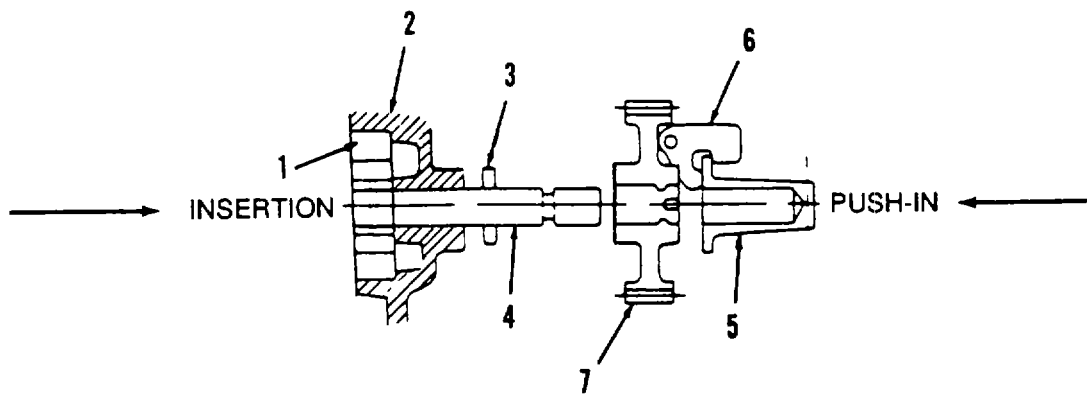

Figure 6-7. Lube Oil Pump Installation.
(1) Lube Oil Pump.
(a) (Refer to Figure 6-7). Insert lubricating oil pump assembly (1) from the outside of the crankcase cover (2). Coat the rotor with oil before installing the cover.